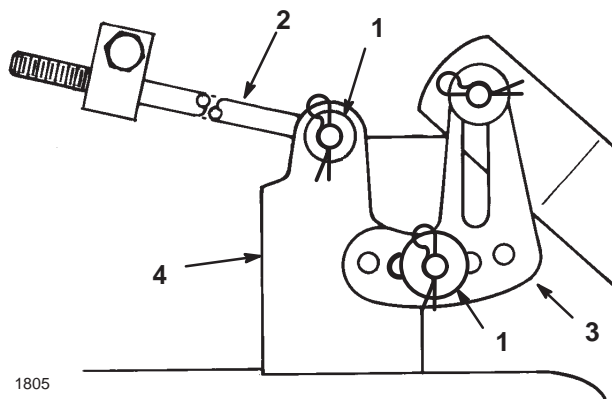

Figure 19
9. Remove the hairpin cotter and washer from the end of the long rod (Fig. 19). Slide the rod out of the mower mount.
10. Remove the hairpin cotter and washer at the mower leveling bracket (Fig. 19). Slide the bracket off of the mounting pin. Install the washer and hairpin cotter for storage.